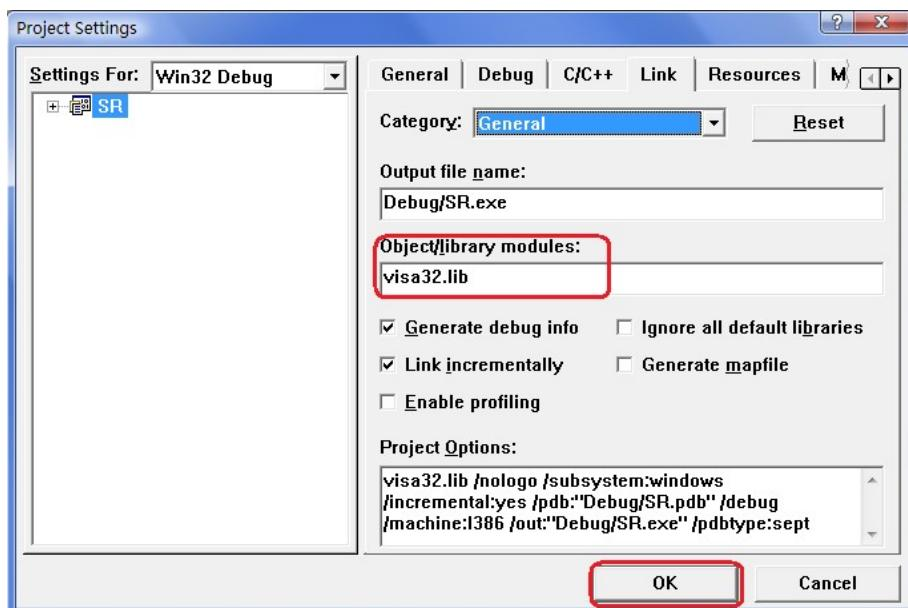

Figure 4-1-2
1. Choose Project-> Settings-> Link, add the file visa32.lib manually in Object/library modules; click OK; as is shown in figure 4-1-2.